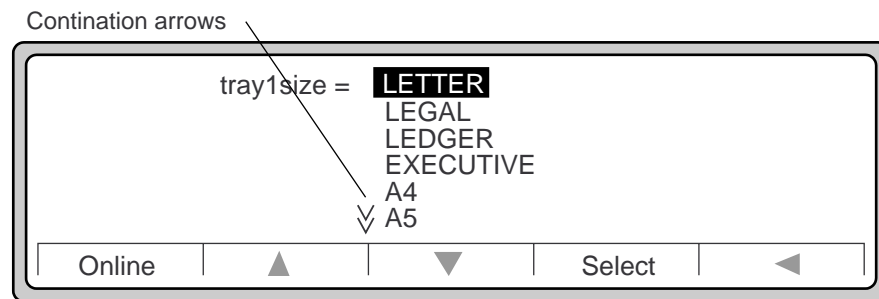

Figure 3-10 Paper Size Selection
4. Press ► and a list of sizes appears on the Control Panel (Figure 3-10).